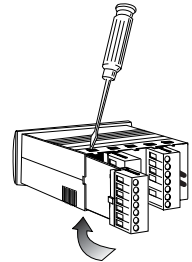

Figure 5-1. Removing Option Module
1. Remove module from case by inserting a screwdriver into tab slot opening at top of input module (see Figure 5-1). Apply pressure to release module from case. Repeat procedure for tab located on underside of module and then slide module away from case.